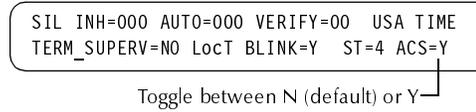

Figure 30 System Function Screen
1. Select ACS=Y in the System Function screen (Figure 30):